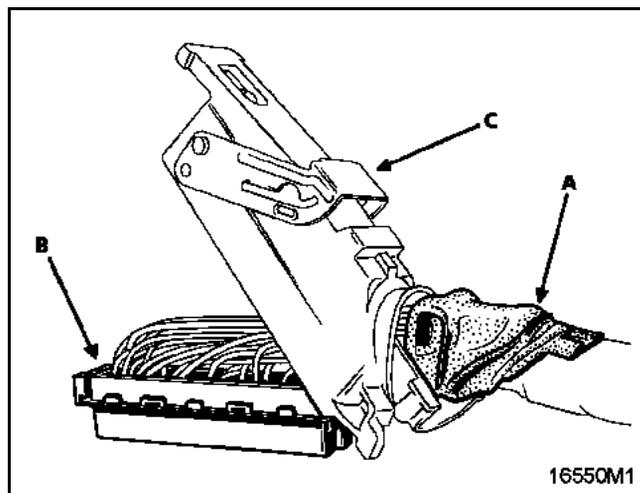

Fig. 1
- Release the cap (A) (Fig. 1).
- Remove the screws and withdraw the connector (B) (Fig. 1) while pulling back the connector cover (C) (Fig. 1).